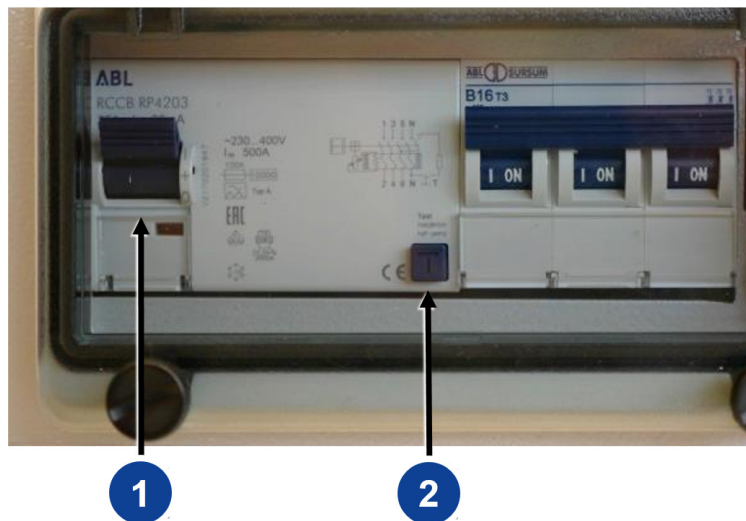

Fig. 8-2 FI circuit breaker (RCD)
The operating personnel must press the test button on the residual current protection device (RCD) (Fig. 8-2 ②) before every start to check the mechanical release function.
- 1. Move the FI circuit breaker Fig. 8-2 ① into position.
- 2. Press the test button Fig. 8-2 ② .
The switch position Fig. 8-2 ① indicates the result:
1. Circuit breaker Fig. 8-2 - ① Move the circuit breaker back into POS I in order to be able to operate consumers from the generator again.